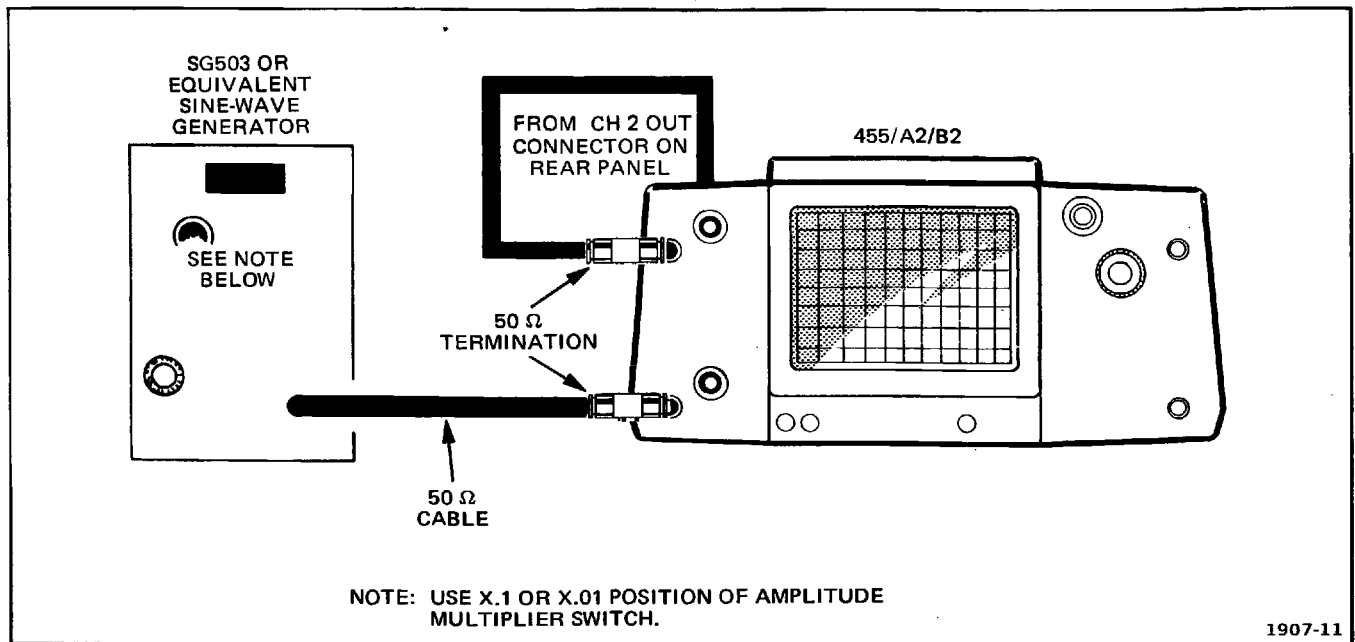

Fig. 3-3. Sine-wave generator test setup #1.
- b. Connect sine-wave generator as shown in Fig. 3-3.